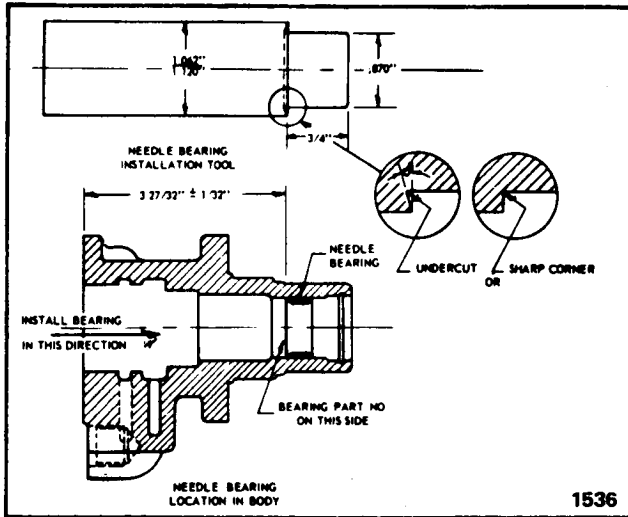

Fig. 5—Needle Bearing Installation
1. If needle bearing (14) was removed, press replacement bearing into pump body (13) FROM BOTTOM END (protect surface of bottom end face of pump body). Press against hardened end of bearing shell on which bearing part number appears. See dimension drawing for mandrel in Fig. 5. Press slowly and make sure bearing is not misaligned in bore. Press bearing (14) into specific location shown in Fig. 5 measured from lower end face of pump body (13) to lower end of bearing (14). Bearing rollers MUST turn freely after installation.
2. Carefully secure pump housing (13) in vise across mounting flange with bottom end up.
3. Assemble needle thrust bearing (11) and bearing race (12) to coupling shaft (10). Assemble coupling shaft into pump body (13). Seat coupling shaft against bearing and make sure shaft turns freely.